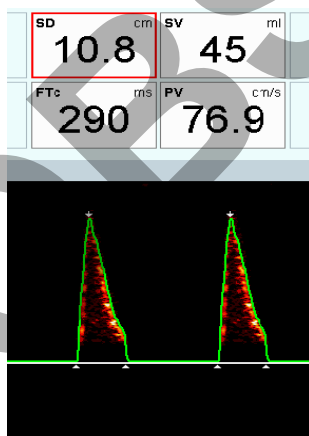

Figure 7.2.1. Appropriate range for this patient of 100cm/s.
**Inappropriate range/scale settings will affect the data displayed. See Figures 7.2.1 and 7.2.2.**